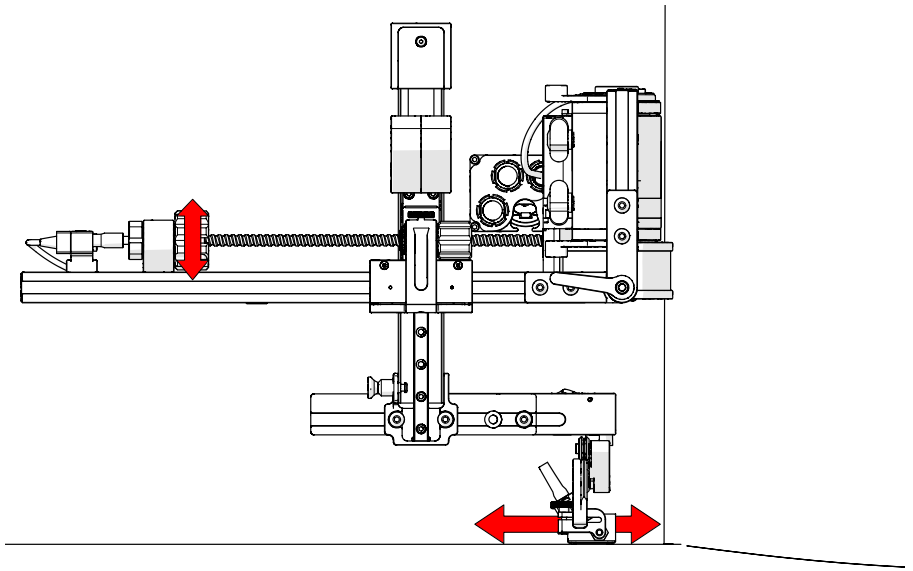

Fig. 221 - Place scanner on surface using installation/removal mat
4. Adjust the Slider PPS as required (*Fig. 221*) to position the probes distance from the weld.